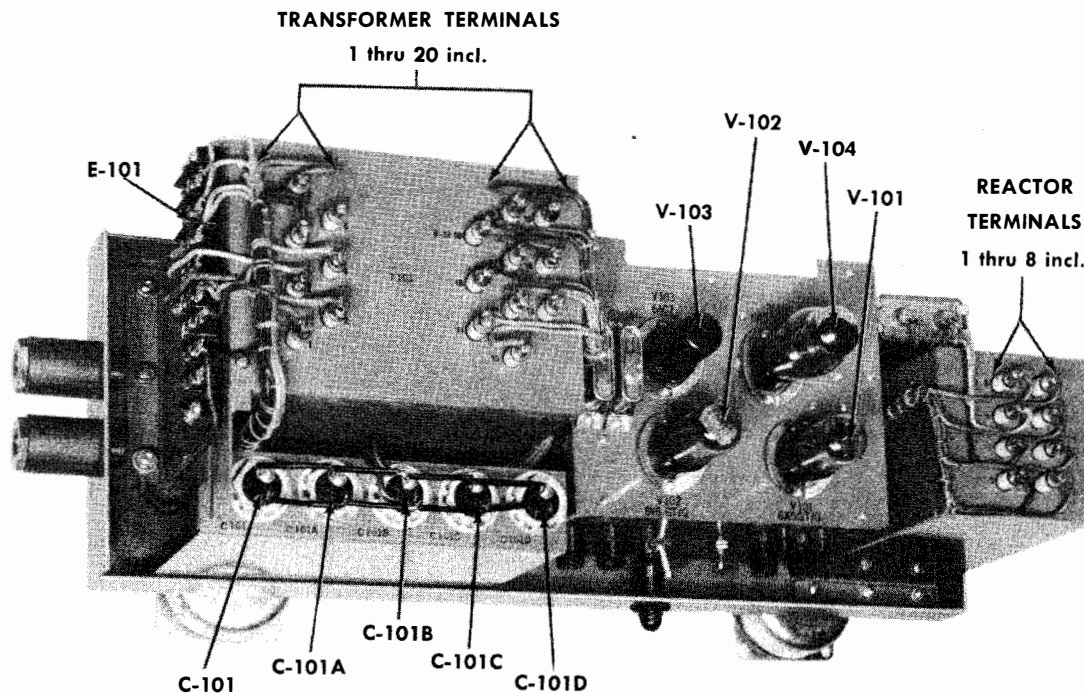

Figure 1-5 Power Supply PP-765/U Top View, Cover Off.
(3) TOP VIEW. (See figure 1-5)